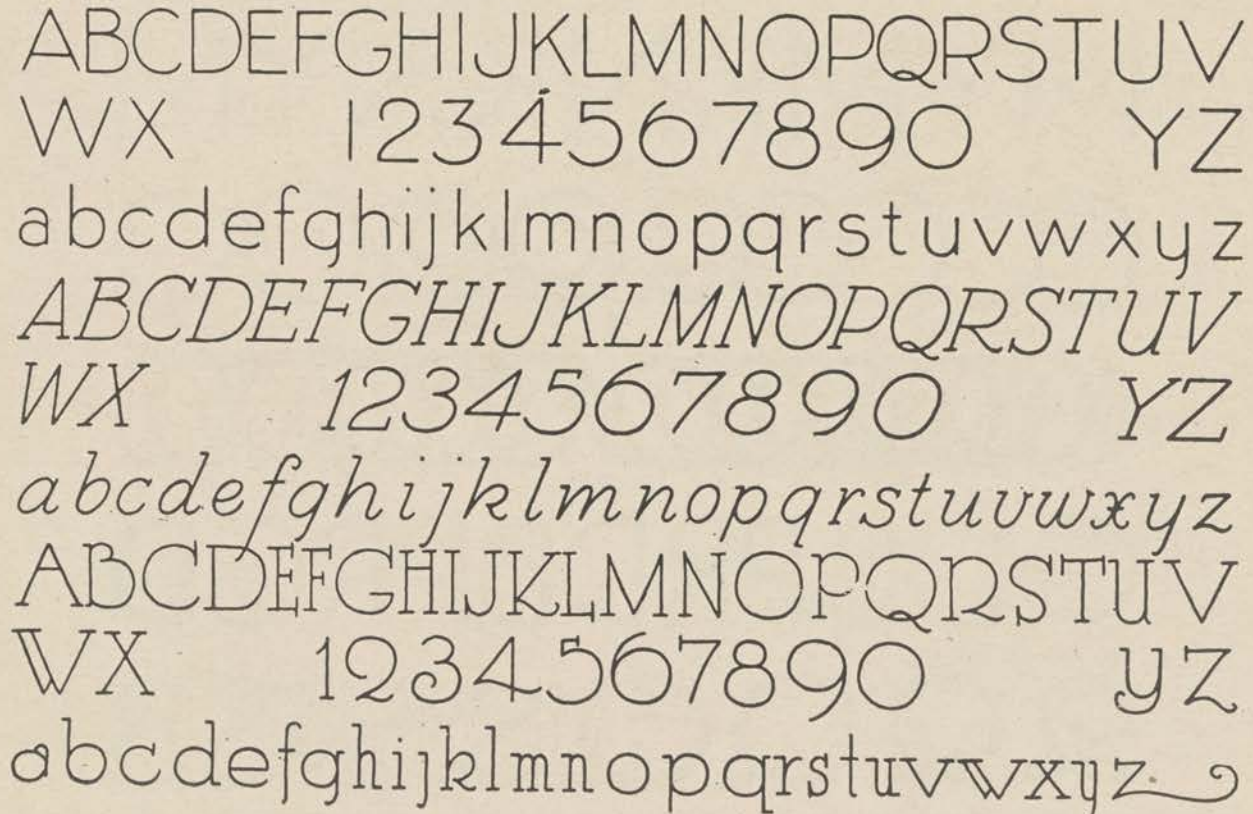

Figure 194.
a. With the strokes of the above exercise, you can form any of the letters in the Gothic alphabet illustrated (fig. 194). Use a pen with a round, turned-up point which will make a line of uniform width regardless of the direction of the stroke. Start with the alphabet at the top. Practice the individual letters between guide lines an inch apart. Then try combining capitals and small, or lower case, letters.